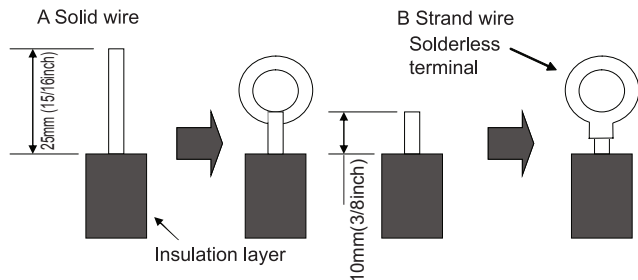

Fig.39
- (1). For solid core wiring (Fig.39)
- (2). For strand wiring (Fig.39)